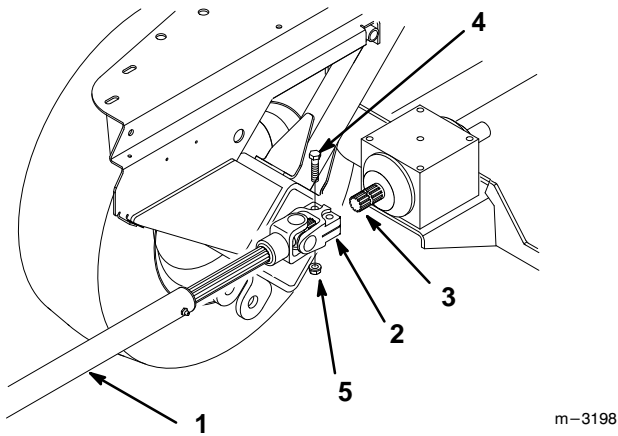

Figure 12
- 13.** Remove (2) 3/8"–16 x 1-5/8" (41.5 mm) bolts and 3/8"–16 locknuts from universal joint and slide the driveshaft off gearbox shaft (Fig. 12).